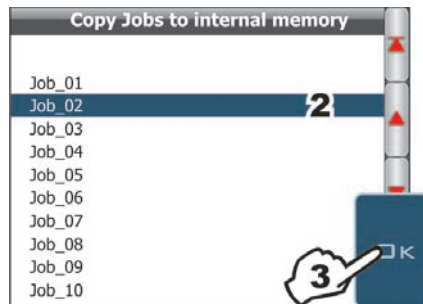

Fig. 161
- 2 Scroll down the job list (Fig. 161) and select the file to copy;